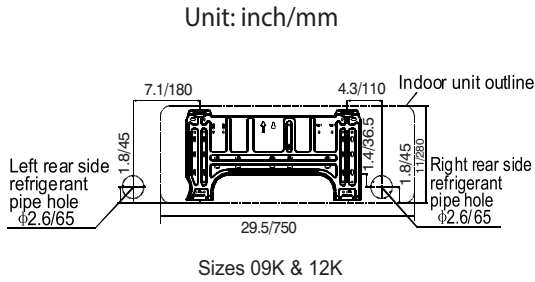
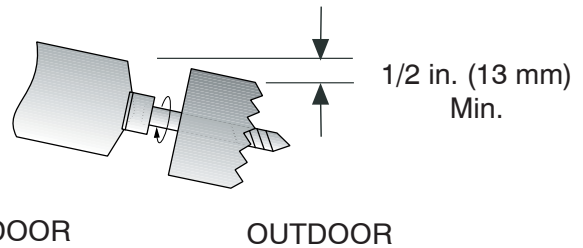

Fig. 4 – Mounting Plate - Model sizes 09, 12
Fig. 8 – Drill Holes
1. Determine the pipe hole position using the mounting plate as a template. Drill pipe hole diameter per values given in Fig. 4 through 7. The outside pipe hole is 1/2-in. (13 mm) min. lower than inside pipe hole, so it slants slightly downward (see Fig. 8).